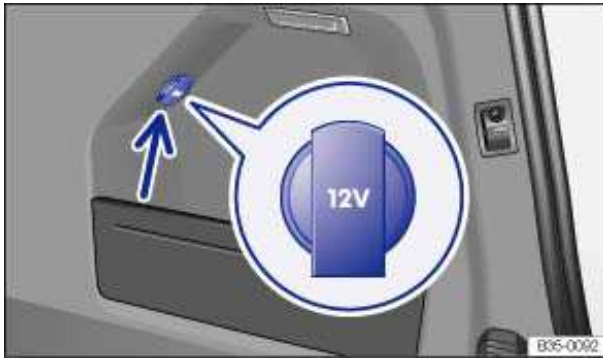

Fig. 110 In the luggage compartment: 12 Volt socket.
- In the luggage compartment ⇒ fig. 110.